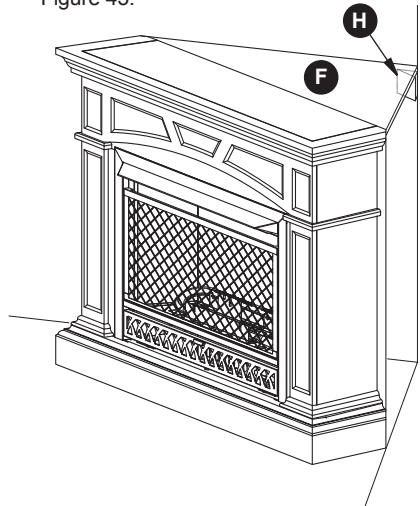

Figure 43
15. Push fireplace into the corner so that the Top Triangle Panel (F) is resting on top of the Set Square Support (H) as shown in Figure 43.